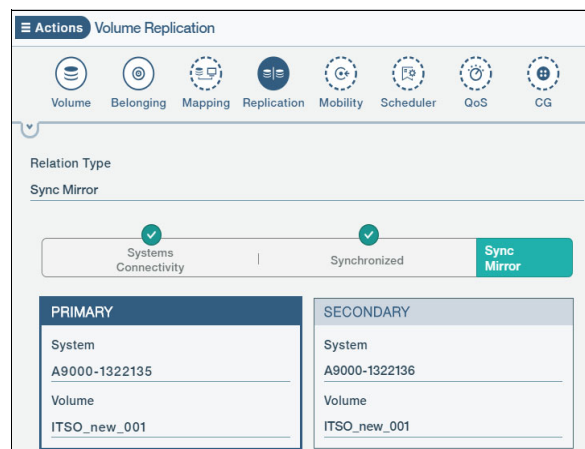

Figure 4-20 Mirroring status
- Click **Apply** to establish the volume mirrors. Because **Activation State: Active** is selected, the synchronization starts immediately and will become synchronized when all the data from the primary volume has been copied to the secondary. The mirror state is shown in Figure 4-20.
You can check the initializing status of one volume by selecting the **Replication** icon in the hub, for information of a volume, as shown in Figure 4-20 on page 88.